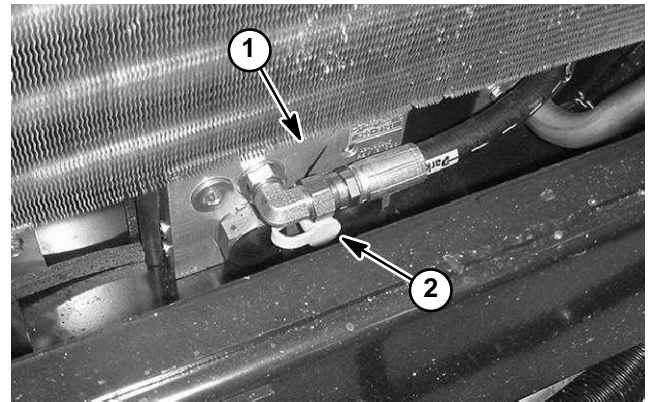

Figure 29
3. Connect a 1000 PSI (70 bar) gauge to test port on 4WD control manifold under radiator (Fig. 29).